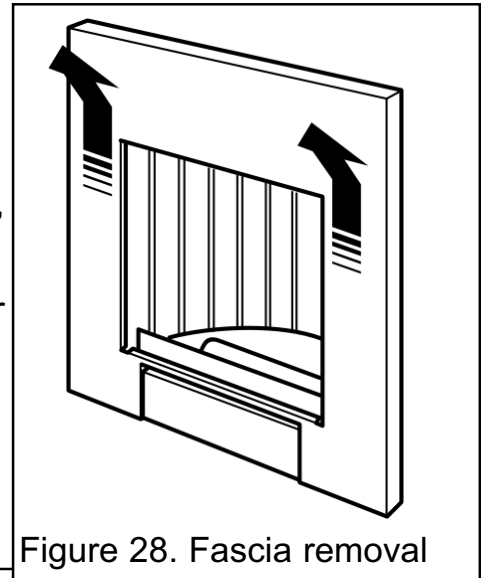

Figure 28. Fascia removal
3. The fascia is held in place by four retaining plates at the back of the fascia. These slot into four retaining brackets on the hotbox. To remove the fascia, hold the sides of the fascia and lift upward and forward. The fascia should lift clear of the hotbox. Do not lift too high before pulling clear as the bottom of the fascia will foul the control knob (See figure 28).